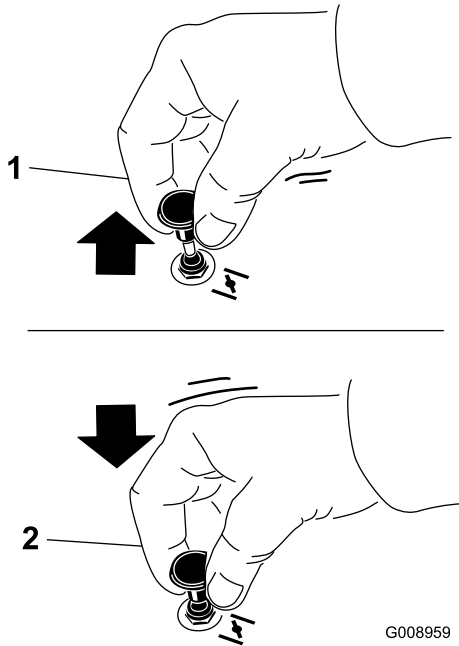

Figure 17
1. Pull up the choke knob to engage the choke before using the key switch (Figure 17).
2. Push down the choke to disengage the choke after the engine has started (Figure 17).